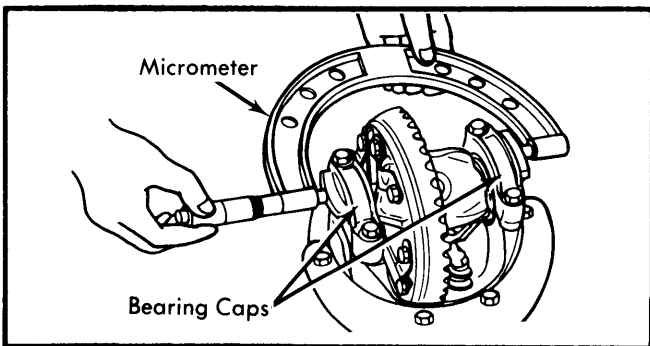

Fig. 7 Measuring Distance Between Bearing Caps
4) As a second check, measure distance between bearing caps using a micrometer. See Fig. 7. Specification obtained should be as indicated in table. Correct any deviation with shim of proper thickness.